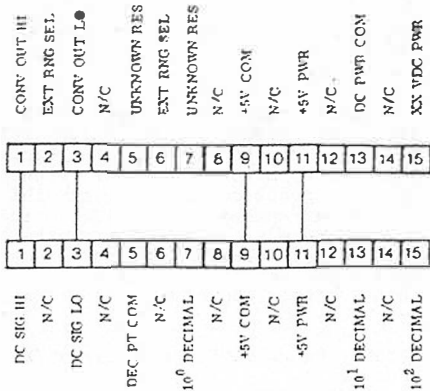

Figure 3. Connector Diagram for RM-351/OHM/XX VDC
3. WIRING. Figure 3 provides wiring information for the connectors. Connect contacts 1, 3, 9 and 11 of the upper connector to the